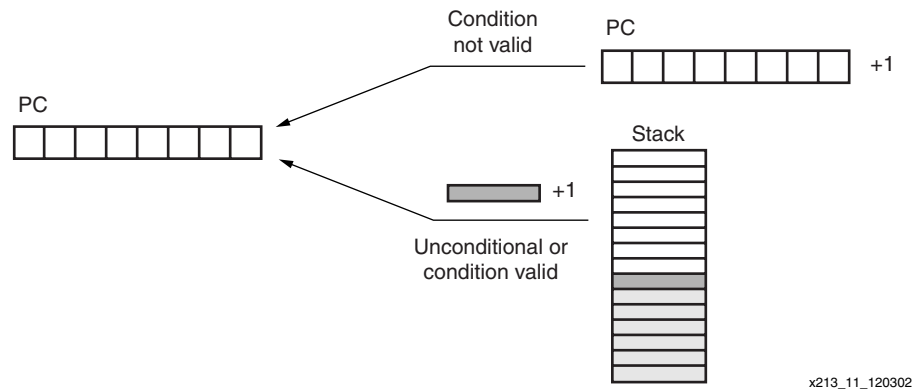

Figure 15: RETURN Instruction
The RETURN instruction is the complement to the CALL instruction. The RETURN instruction is also conditional. In Figure 15, the new program counter (PC) value is formed internally by incrementing the last value on the program address stack, ensuring that the program executes the instruction following the CALL instruction which resulted in the subroutine. The RETURN instruction has no effect on the status of the flags.